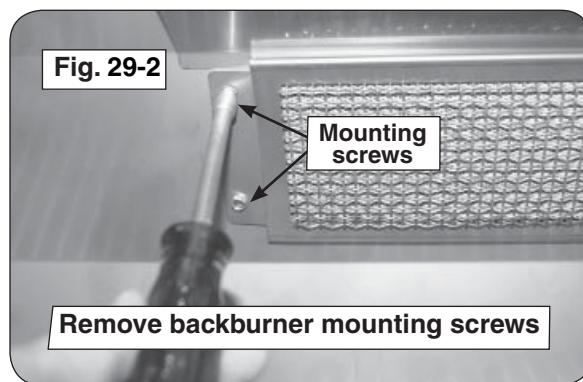

Fig. 29-2
1. Remove the backburner mounting screws ($\frac{1}{4}$ " hex) located at the left end of the backburner assembly (see Fig. 29-2).